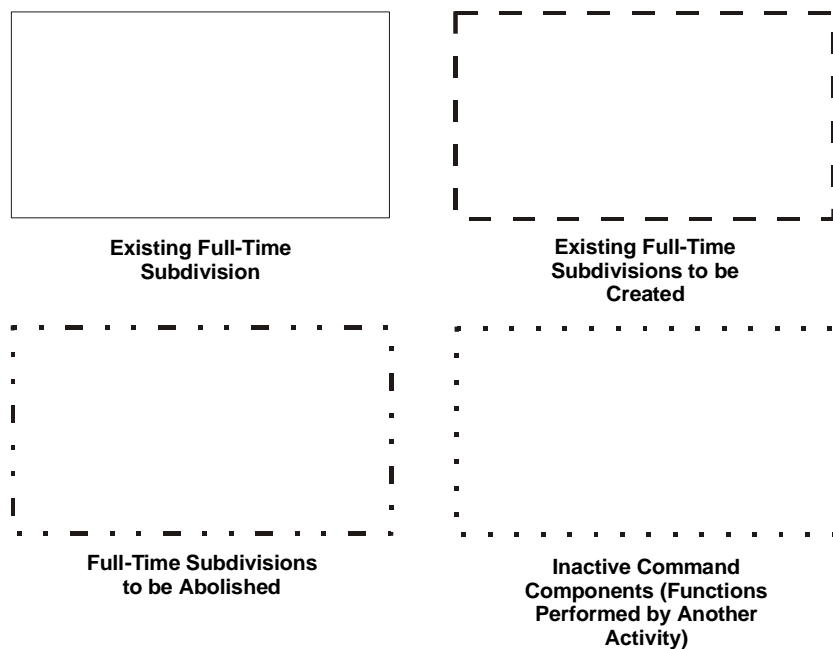

Figure 3-11. Block line breaks in organizational chart squares.
- (4) An organization chart intended for use by only local activities may be prepared on any size paper. However, if the chart is to be reproduced, prepare it on an 8 1/2 x 11 sheet of paper. A chart to be reproduced by photographic means should be prepared according to the print shop's requirements.
- (5) An organization chart uses the following line convention types. See Figure 3-11.